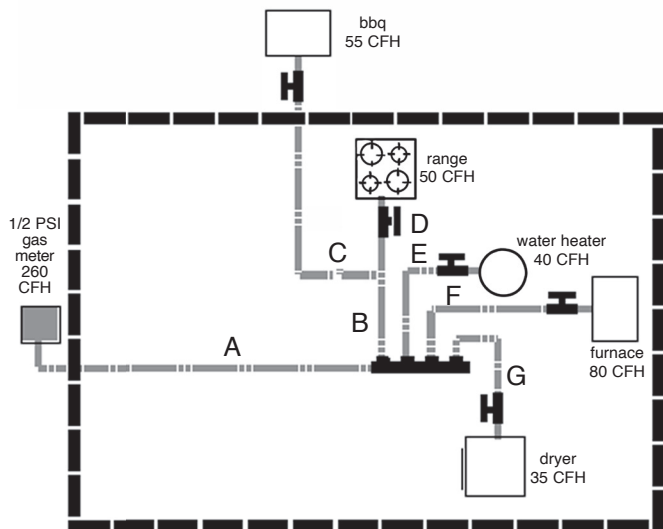

Figure: 3-4
1. The system shown in **Figure 3-4** has a barbecue installed nearby the range. A parallel arrangement was chosen for the medium pressure system (7-14 inch W.C. with 1-inch W.C. drop), with a single run feeding both the range and barbecue in series.